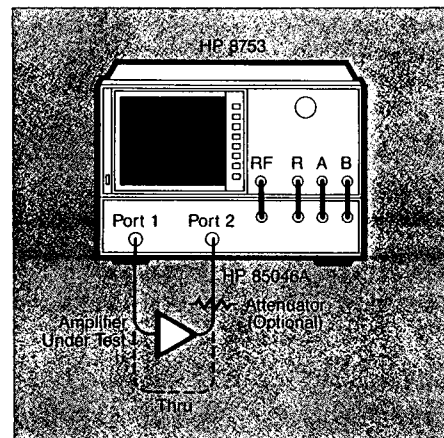
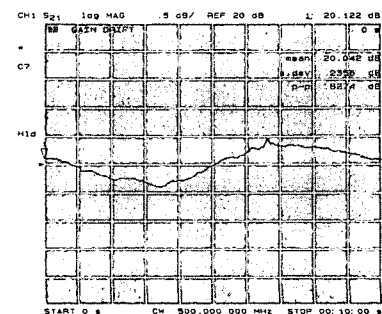

Figure 3. Basic setup for amplifier measurements using the HP 8753 with a S-parameter test set.
Figure 6. Gain versus time measurement.
The following linear measurements can be made with a single connection to the S-parameter test set (see Figure 3). A full two-port calibration yields the most accurate results. Before calibration, set the measurement parameters to their desired values. It may be appropriate to step through some of the measurements before performing the calibration to ensure proper stimulus settings. Power levels at the various ports are of primary concern when measuring the linear transmission and reflection characteristics of amplifiers. If external attenuation is needed, calibrate with the attenuator in the system to remove its effects.
Transmission measurements can be made using the basic setup shown in Figure 3. An external attenuator at the amplifier output may be necessary to keep the power level at the B receiver input below the maximum level (0 dBm) for gain measurements. The test set attenuator, accessed through the HP 8753, affects only the source power path.
1. Connect the system as shown in Figure 3. Preset the HP 8753 to return the instrument to a known state of operation.
Gain variation in time, with all other parameters held constant, is sometimes referred to as gain drift. The HP 8753 allows fixed frequency measurements to be made over 100 ms to 24 hour time intervals. This measurement uses the standard setup of Figure 3. An example plot of an amplifier's gain drift over a 10 minute interval is shown in Figure 6.
1. Connect the instrument as shown in Figure 3.